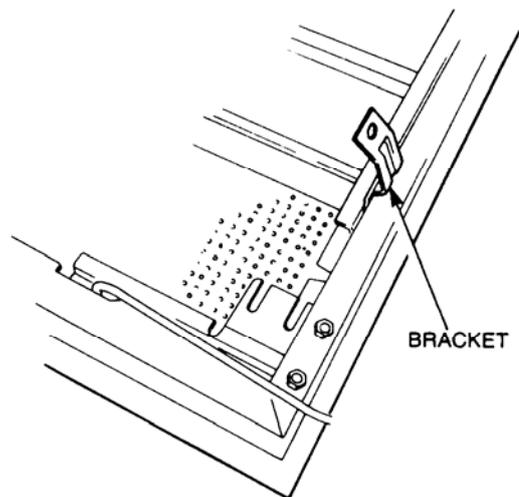

Figure 21 Window Glass Removal
- gg. Carefully bend back the bracket at the lower end of the forward channel (refer Figure 21).
- q. Bend the inner panel mounting (refer Figure 21) back into position.